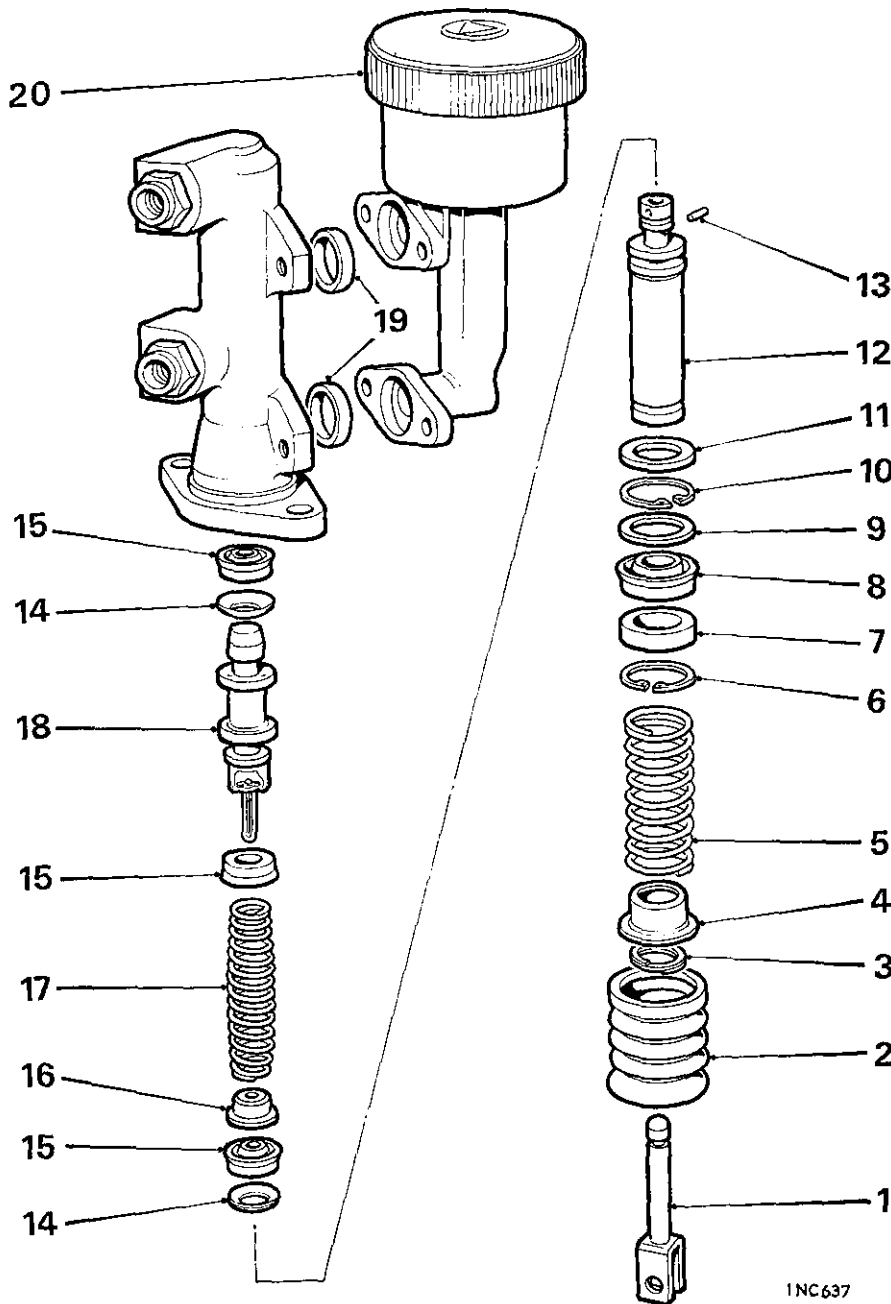

Fig. Mb.6
Refer to Fig. Mb.6.
- (20) Reverse the dismantling procedure, with special attention to the following points.
- (21) Use a complete set of new rubber seals when reassembling.
- (22) Immerse all the internal components in a recommended brake fluid as in item (26), and assemble them while wet.
- (23) Locate the piston washer (5) over the head of the secondary piston, convex surface first; carefully ease the secondary cup over the piston and seat it with its flat surface against the washer, see Fig. Mb.6.
- (24) The remainder is a reversal of the dismantling procedure (5) to (17). Fit new copper gaskets to the connection adaptors and tighten the connections to the torque figure given in 'GENERAL DATA'.